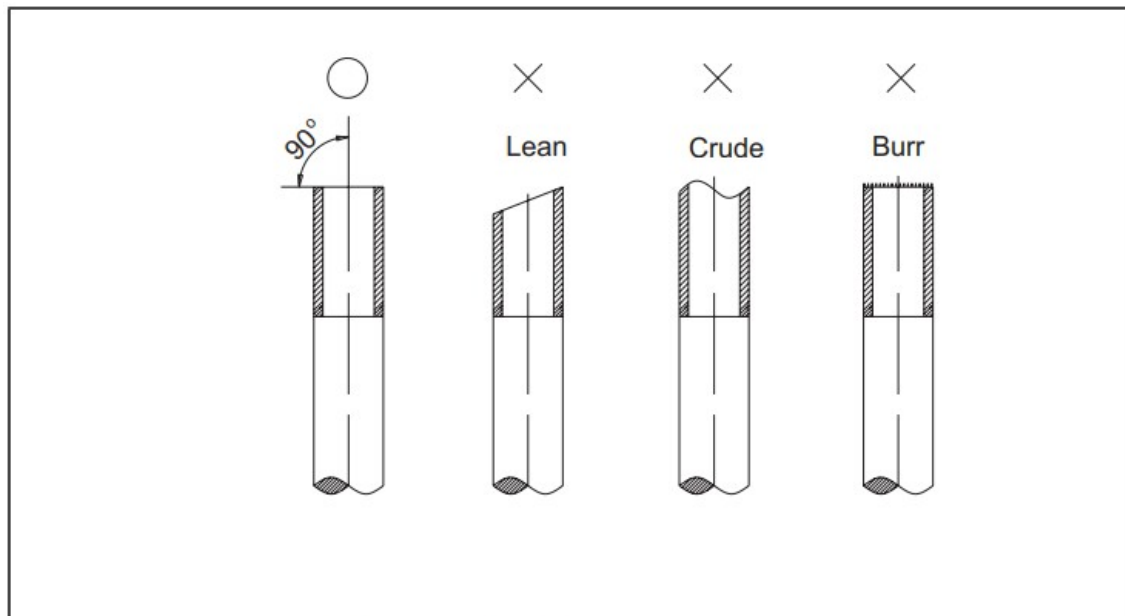

Figure 34. Cutting Pipe
4. Cut the selected pipes with a pipe cutter. Make the cuts flat and smooth as illustrated in “Figure 34. Cutting Pipe”.